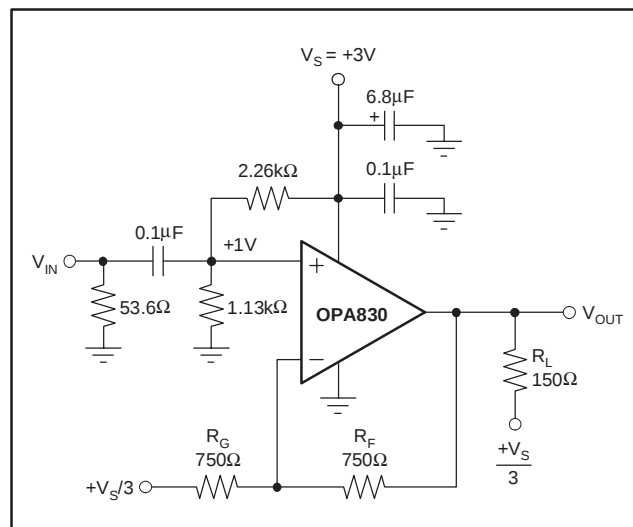
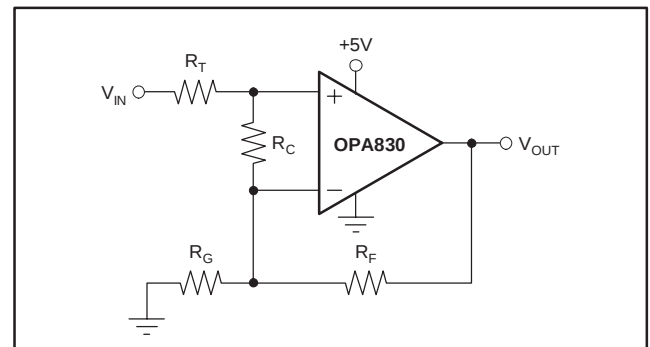

Figure 2. AC-Coupled, G = +2, +3V Single-Supply Specification and Test Circuit
Figure 7. Compensated Noninverting Amplifier
At $T_A = 25^\circ\text{C}$, $G = +2$, and $R_L = 150\Omega$ to $V_S/3$, unless otherwise noted (see Figure 2).
Figure 2 shows the AC-coupled, gain of +2 configuration used for the +3V Specifications and Typical Characteristic Curves. For test purposes, the input impedance is set to 50Ω with a resistor to ground. Voltage swings reported in
the Electrical Characteristics are taken directly at the input and output pins. For the circuit of Figure 2, the total effective load on the output at high frequencies is 150Ω || 1500Ω. The 1.13kΩ and 2.26kΩ resistors at the noninverting input provide the common-mode bias voltage. Their parallel combination equals the DC resistance at the inverting input (R_F), reducing the DC output offset due to input bias current.
Figure 7 shows a noninverting amplifier that reduces peaking at low gains. The resistor R_C compensates the OPA830 to have higher Noise Gain (NG), which reduces the AC response peaking (typically 5dB at $G = +1$ without R_C) without changing the DC gain. V_{IN} needs to be a low
Frequency response in a gain of +2 may be modified to achieve exceptional flatness simply by increasing the noise gain to 3. One way to do this, without affecting the +2 signal gain, is to add an 2.55k Ω resistor across the two inputs, as shown in Figure 7. A similar technique may be used to reduce peaking in unity-gain (voltage follower) applications. For example, by using a 750 Ω feedback resistor along with a 750 Ω resistor across the two op amp inputs, the voltage follower response will be similar to the gain of +2 response of Figure 2. Further reducing the value of the resistor across the op amp inputs will further dampen the frequency response due to increased noise gain. The OPA830 exhibits minimal bandwidth reduction going to single-supply (+5V) operation as compared with $\pm 5V$. This minimal reduction is because the internal bias control circuitry retains nearly constant quiescent current as the total supply voltage between the supply pins is changed.